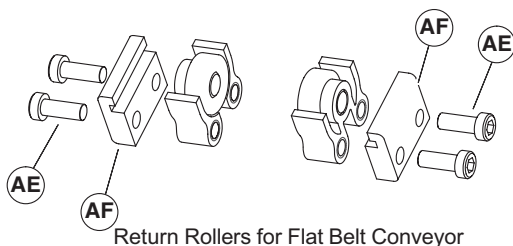
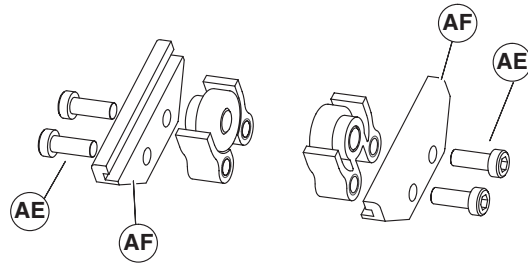

Figure 13
Figure 14
1. Locate return rollers. Exploded views shown in Figure 13 & Figure 14.
2. Remove screws (Figure 13, item AE) & (Figure 14, item AE) and clips (AF) from roller assembly.